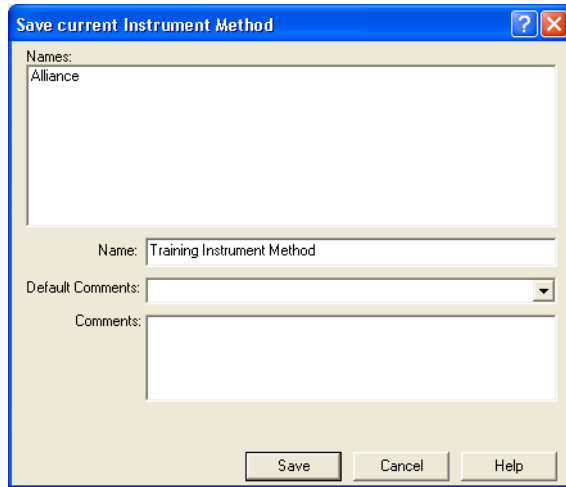

Figure 4-8 Save Current Instrument Method Dialog Box
1. Select **File > Save**. The Save current Instrument Method dialog box appears (Figure 4-8).